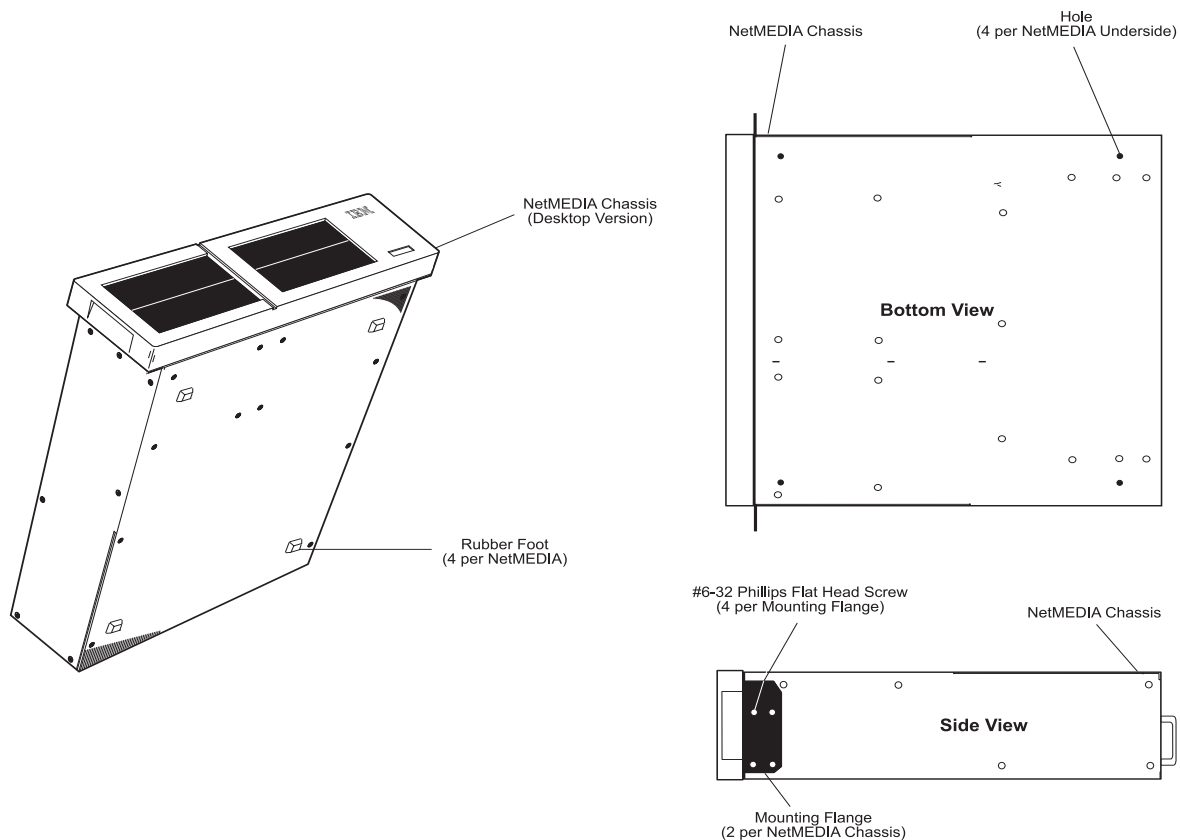

Figure 15: NetMEDIA Chassis Desktop Conversion
2. Unscrew the eight (8) #6-32 screws that secure the two (2) mounting flanges to the NetMEDIA chassis and remove flanges (Figure 15). Be sure to save the flanges and screws for future use.
3. Turn over the NetMEDIA chassis so that the bottom of the unit is facing upwards. Peel the adhesive backing off the four (4) rubber feet provided and apply the feet to the underside of the chassis. Use the four (4) holes on the underside of the chassis as guides when mounting the feet (Figure 15).